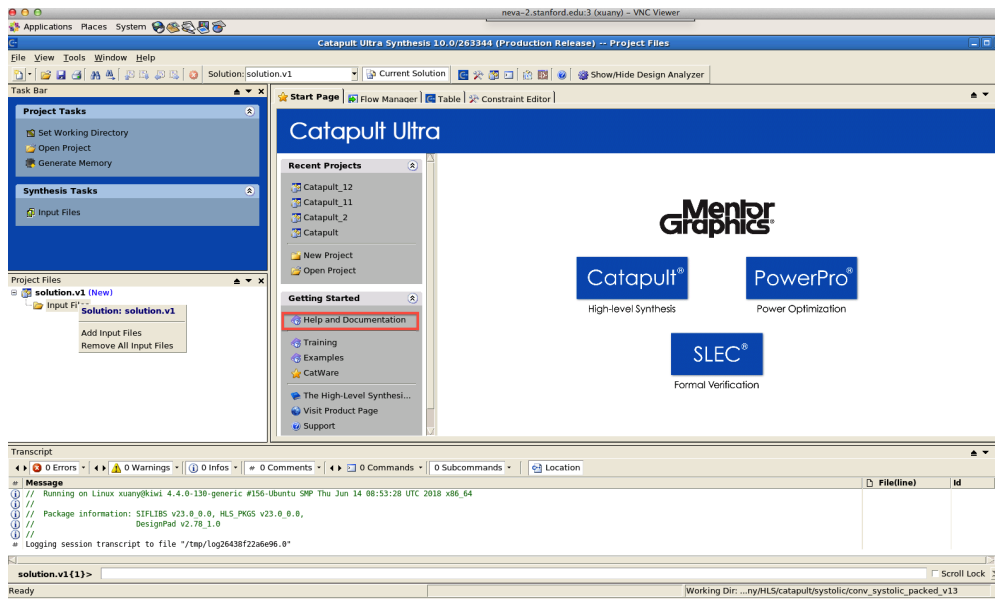

Figure 1: Catapult GUI.
- Catapult User Manual: This is the GUI version of the User Reference above. It can be accessed by clicking **Help and Documentation** in Catapult GUI as shown in Figure 1.